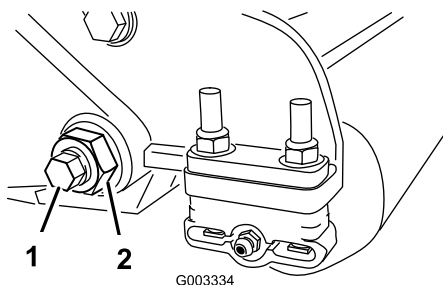
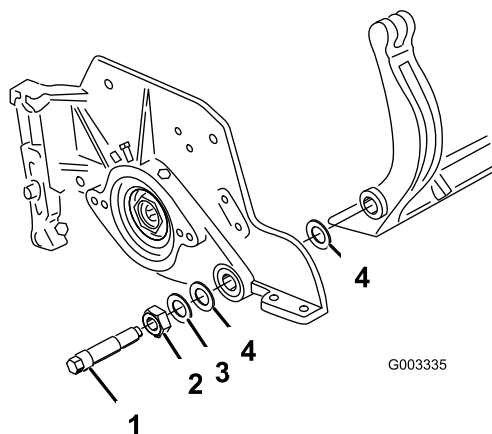

Figure 26
Figure 27
3. On each side of the machine, loosen the lock nut securing the bedbar bolt (Figure 26).
4. Remove each bedbar bolt allowing bedbar to be pulled downward and removed from machine bolt (Figure 26). Account for 2 nylon and 1 stamped steel washers on each end of bedbar (Figure 27).
2. Secure bedbar to each side plate with bedbar bolts (nuts on bolts) and 6 washers. A nylon washer is to be positioned on each side of side plate boss. Place a steel washer outside each of the nylon washers (Figure 27). Torque bedbar bolts to 27-33 ft.-lb. Tighten locknuts until the outside steel washer stops rotating and end play is removed but do not overtighten or deflect side plates. Washers on inside may have a gap.